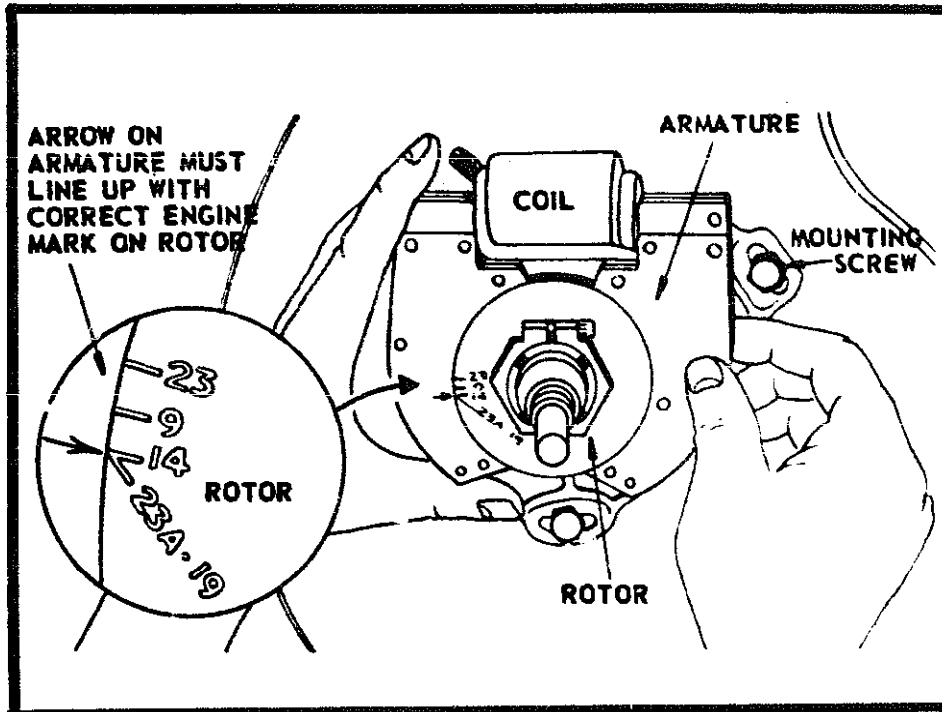

Fig. 2-21. Aligning arrow with engine model number. (Courtesy Briggs & Stratton Corp.)
- The arrow stamped in the left side of the coil armature should be matched to the number corresponding to the engine model number (Fig. 2-21).